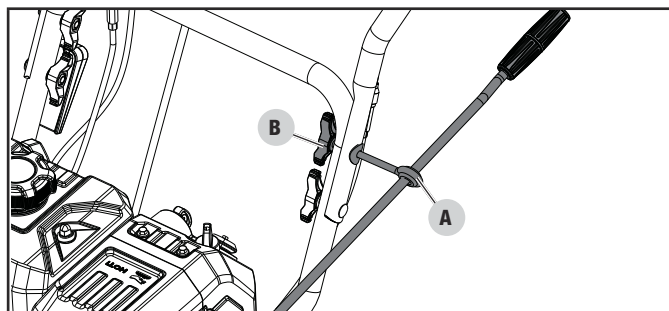

Figure 8A
1. Slide the eye bolt (A) through the upper handle and lower handle connection hole. Thread the locking knob (B) onto the eye bolt (A) (Fig. 8A). Torque until snug. Do not overtighten.